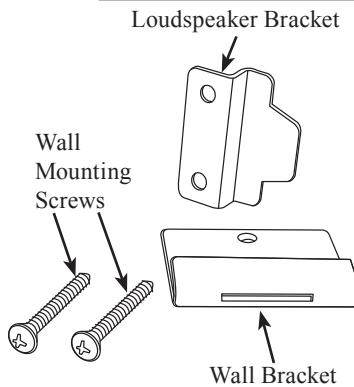

Figure 5
The supplied On Wall Mounting Brackets allow for different mounting positions of the LCR80 Loudspeaker relative to the wall, both vertical and horizontal. Two positions are flush mount, with the Loudspeaker close to and parallel with the wall. The other position is angle mount, which places the Loudspeaker further away from the wall and allows for rotation of ± 30 degrees. Refer to figure 5.
- Attach either the flush mount or angle mount brackets to the rear of the Loudspeaker. Refer to the chart below, along with figures 5 and 7 for the